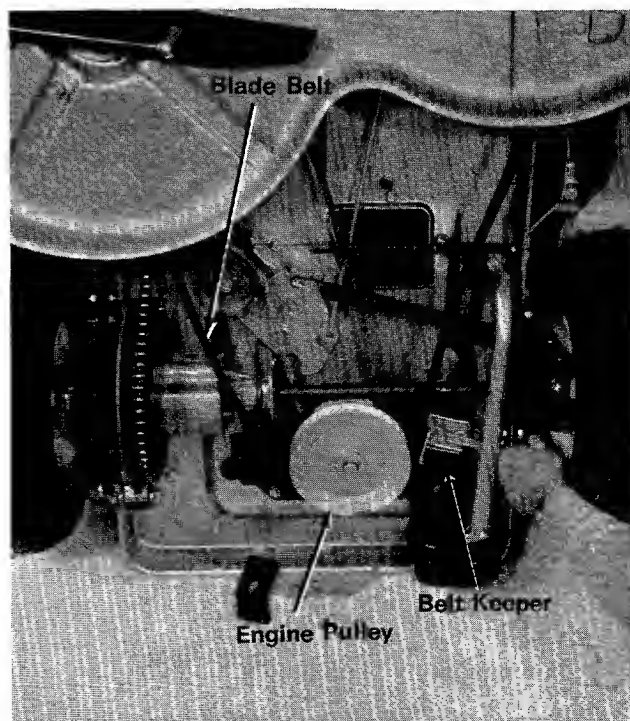

Figure 29
2. Remove the two belt keepers on the engine pulley. (See figure 29.)